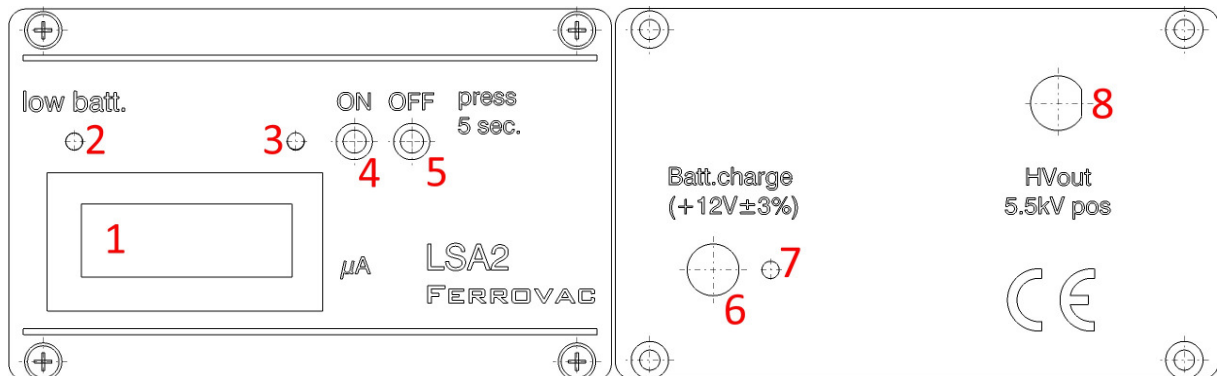

FIG1: LSA2 FRONT
- Connect the cable with the connector to the LSA2 power input socket [FIG1 (6)]
For starting the controller, press and hold controller power on switch [FIG1 (4)] for 5 seconds.
When the controller detects a low battery voltage it will begin to beep incessantly and the red LED [FIG1 (2)] turns on. There will be remaining battery power for about 3h.